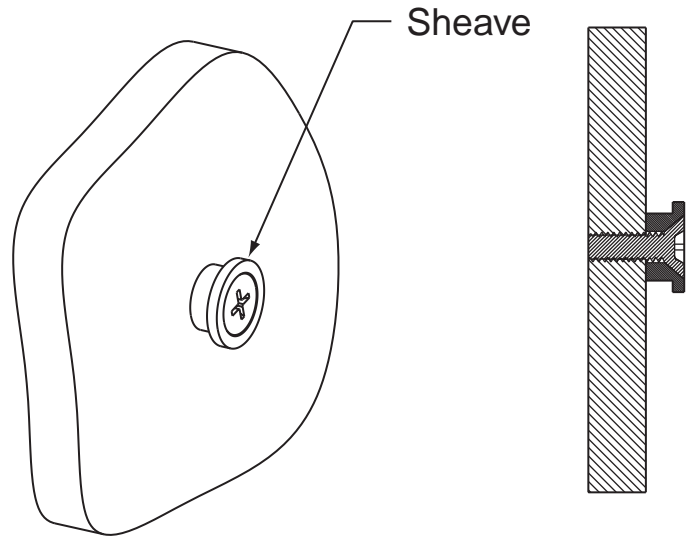

Figure 6.
5. Drill the flathead screw provided through the mounting sheave and into the wall as shown in Figure 6.